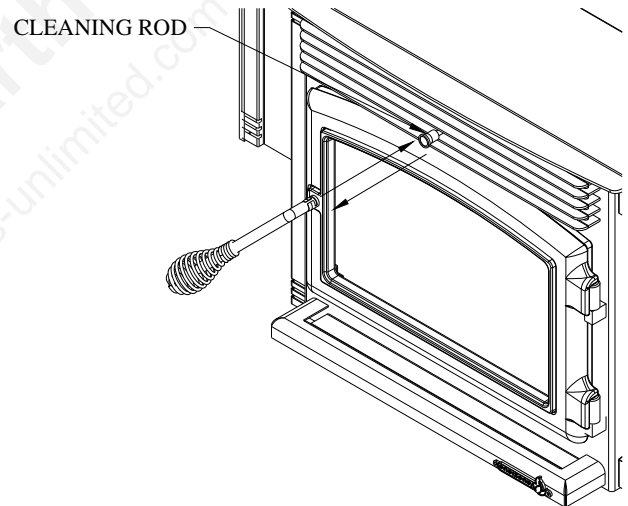

Figure 43
- Heat Exchange Tubes** – Your BIO-35 stove is designed with a built-in heat exchanger tube cleaner. This should be used weekly to remove accumulated ash on the tubes. Slide the cleaning rod back and forth two or three times from front to back (refer to figure 43). When finished, push the cleaning rod back in, behind the louvers.